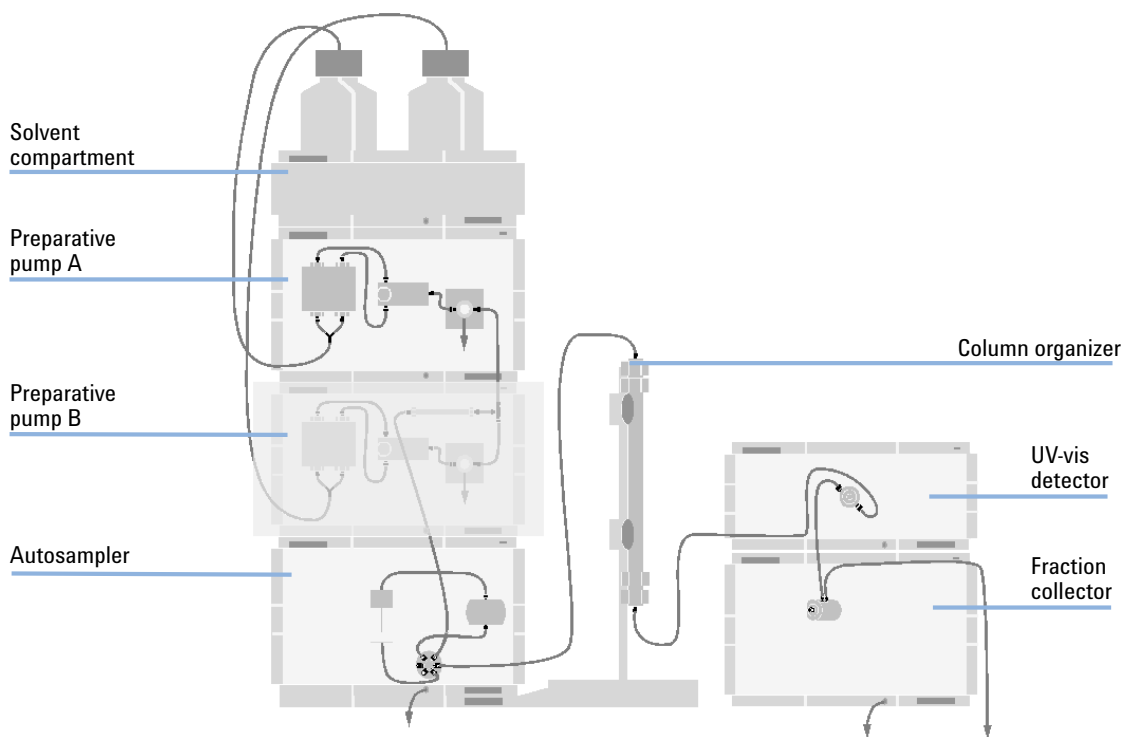
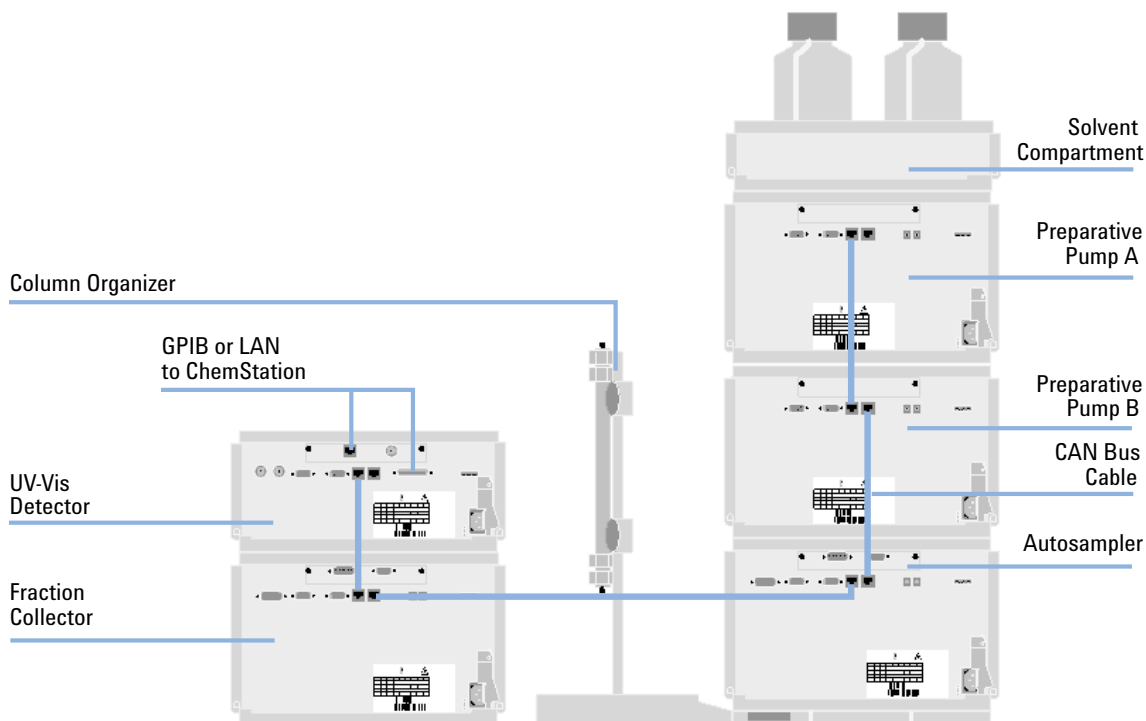

Figure 5 Recommended Stack Configuration -Preparative System (Front View)
Figure 6 Recommended Stack Configuration - Preparative System (Rear View)
- Figure 5 on page 34 and Figure 6 on page 35 show the configuration recommended for the pump in a UV based system.
- 1** Place the individual modules in a stack configuration as shown in Figure 5 on page 34.
- 4** Connect the CAN cable to the CAN connector of the next module, see Figure 6 on page 35.